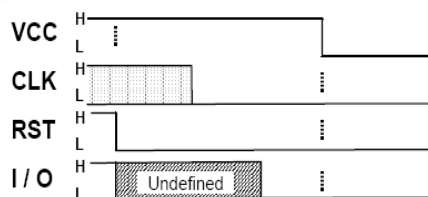

Figure 16. Deactivation (ISO 7816-3 2006)
To ensure the SIM card electrical circuits properly deactivate before the contacts of the SIM card are mechanically connected, ISO7816-3 2006 mandates the sequence of events described in Figure 16. The FXLA2204 provides full transparency to the deactivation timing between host and SIM card.
1. Complete deactivation timing (see Figure 16).